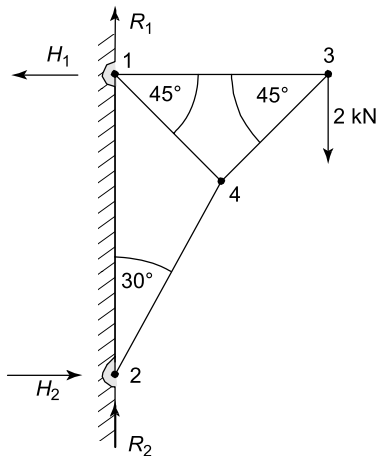

Figure RT4.2
2. Determine the unknown internal forces in the pin-jointed truss of Figure RT4.2.